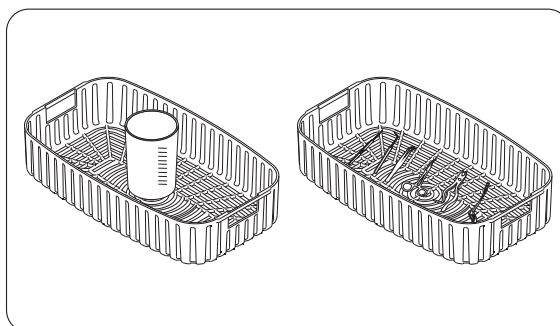

Fig. 12
- 5► Put the instruments/articles in the basket or beaker, see the topic "Degassing / Using the Beaker" (Page 7). Do not put instruments/articles in the basket at the same time you are using the beaker. The instruments must be totally immersed but not overlapped (Fig. 12).